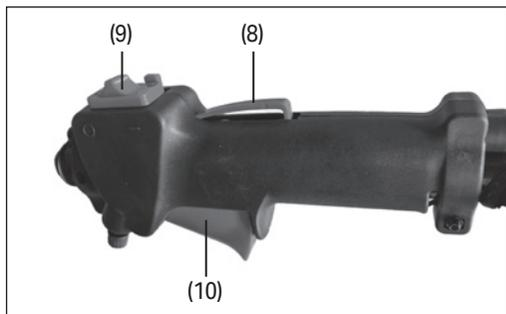
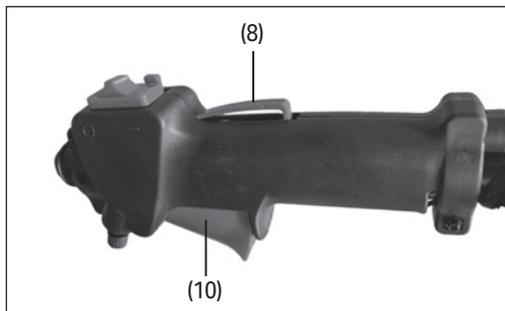

Fig.4
Fig.8
- Ensure the auger bit (16) is not touching the ground or any other objects when starting the product.
7.1 Starting the Engine (Fig.4 – Fig.8)